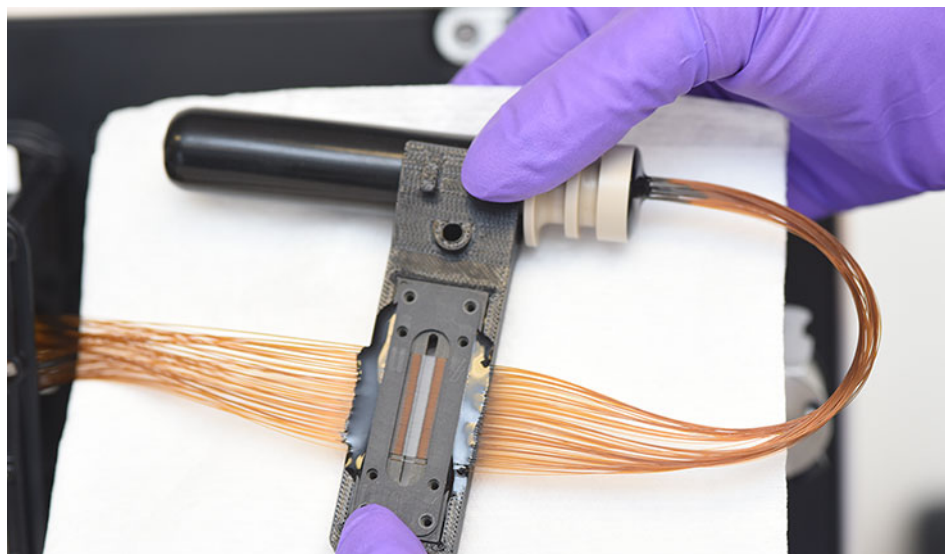

Figure 99 Capillary array window with paper towel behind
- 6 Place a paper towel behind the capillary array window as shown in **Figure 99**.